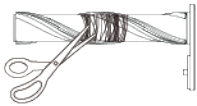

Figure 18
5. Carefully remove obstructive materials from the Roller Brush Assembly with scissors or a knife. (Figure 18)